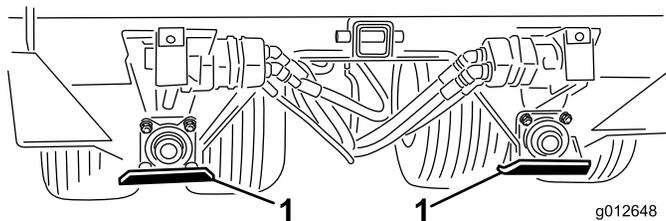

Figure 7
Mount a skid to each mounting bracket with (2) carriage bolts, flat washers and locknuts. Position skids as shown in Figure 7.